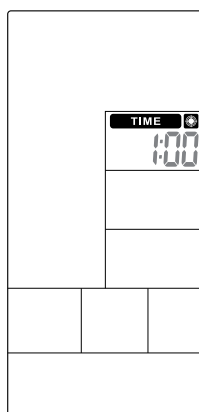

Figure 39
- ① In Standby mode, press Target Time key and. **TIME** will light up, along with a long sound for 1s.
- ② TIME value is flashing, press UP and DOWN to adjust value (Figure 39) and press ENTER to confirm meanwhile buzzer beeps 1s and **TIME** lasting lighting up.